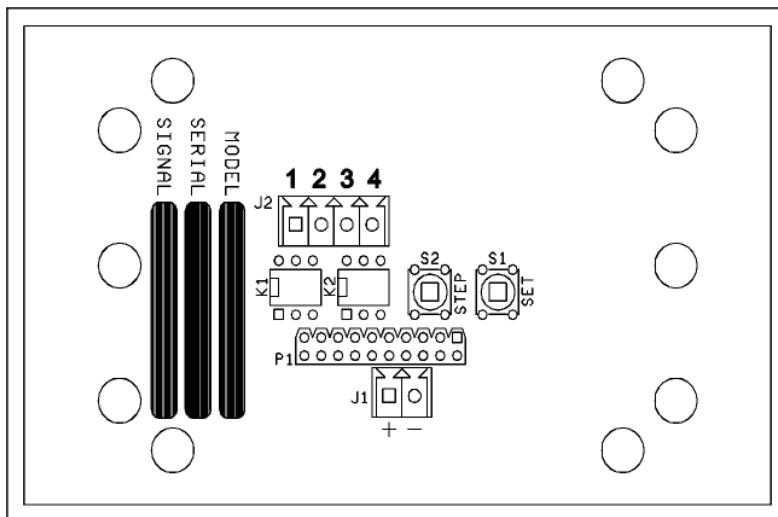

Figure 1: Rear View
1. To enter the setup menu, press the STEP (S2) push-button. (Refer to Figure 1 below for button locations.) Display will show "dEC Pt". Press STEP (S2) again to show current decimal point setting.